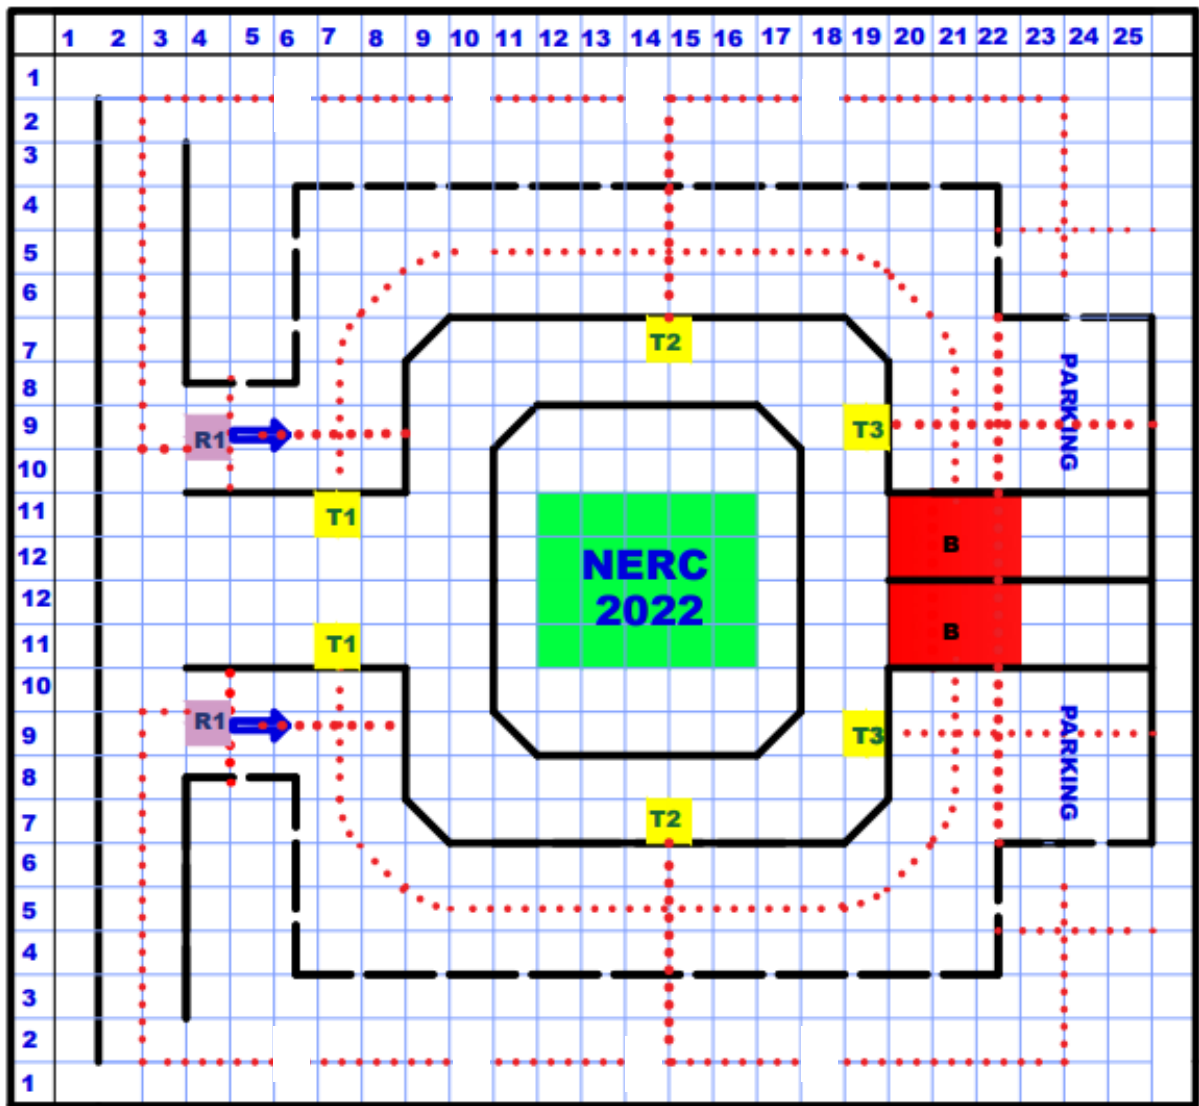

Figure 1 Contest Arena (Top View)
The NERC 2023 theme is continuation of 2022 based on precision agriculture with focus on autonomous robots that can simulate Fruit Harvesting tasks. In this theme, there will be a robot that is acting as the harvester robot, its job is to pluck only riped fruits from the tree. The ripe and unripe fruits are represented with orange and green colored ping pong balls respectively. After collecting the desired fruits, the robot shall drop them at the designated area and shall reach the parking spot. The first team to successfully collect all the desired fruits and reach the parking spot will be declared the winner. The Contest arena is shown in Figure 1.
2. The solid black lines and dashed lines in Figure 1, represent the walls of the arena. The walls represented by solid black lines have a height of 4 inches throughout the arena. The walls represented by dashed black lines have a height of 2 inches throughout the arena.
3. The red dotted lines in Figure 1. represent the black solid lines on the arena. The unloading bay is represented by B.
5. The robot (R1) will start at the intersection of grid lines (4,5) and (9,10) facing in the direction of the arrow as marked in Figure 1. The starting position and orientation of the robot (R1) are fixed. The robot must be placed behind the starting line.
12. After successful collection of all the ripe fruits and dropping them in unloading bay(B), the robot(R1) will move towards the Parking spot as marked in the arena shown in Figure 1. The team to successfully complete all the tasks and reach the parking spot will be declared the winner. A successful reach means all the parts of the robots have crossed the parking entrance line and no part is on and above the line.
*Reaching means the robot **must have completely entered the parking area** as shown in the fig 1 (red dotted line represented as black marker in col 22 of figure 1)